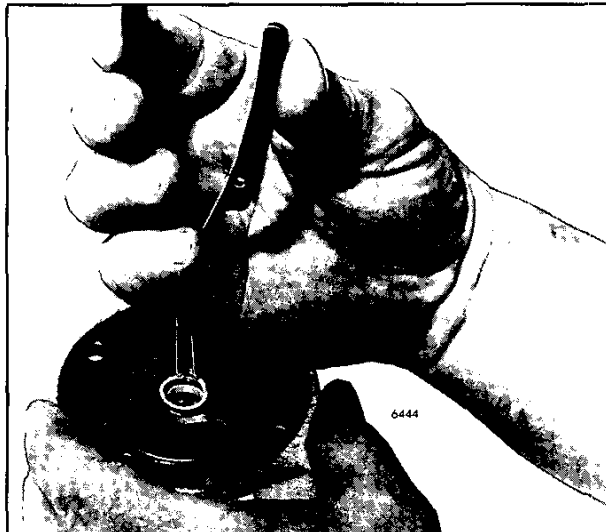

Fig. 13 - Removing Snap Ring.
9. Remove the outer snap ring using J 28507, bearing and inner snap ring from the compressor side of the center section (Fig. 13).